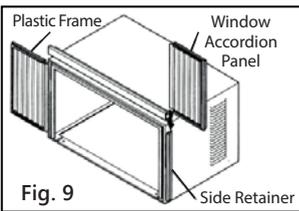

Fig. 9
2. Slide I section of window accordion panel into side retainer on the side of the cabinet (see Fig. 9 & Fig. 10). Do both sides.